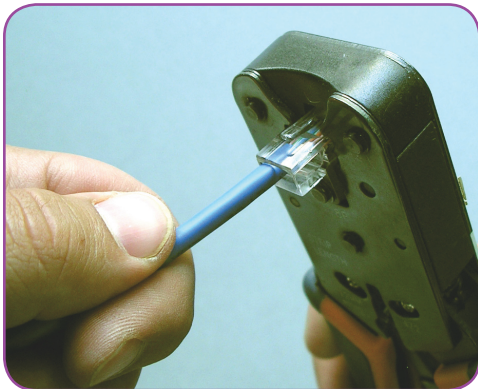

Figure D-10: Crimping the Wire Assembly
9. Insert the assembly into the crimper and tightly crimp the connector (see **Figure D-10**).